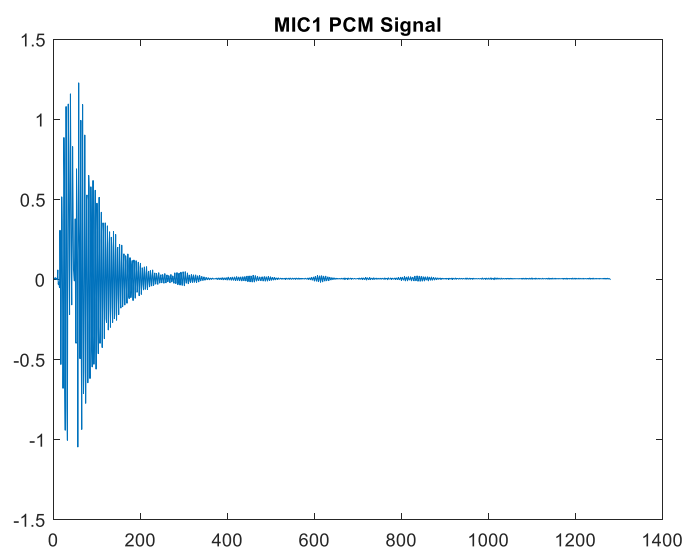

Figure 8: Example of MIC1 recording.
4. Open Matlab in the `matlab` folder and run command (result can be seen in Figure 8):